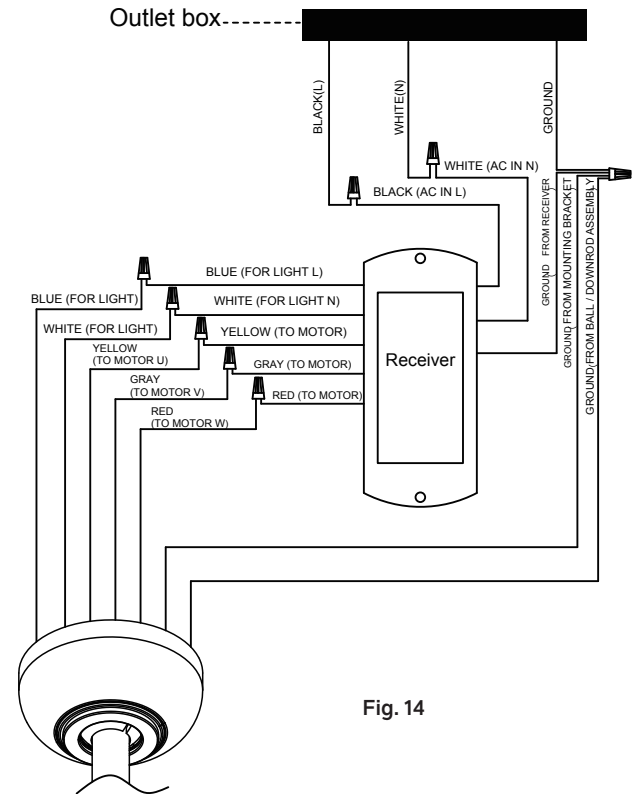

Fig. 14
Step 1. Connect the BLUE (FOR LIGHT) wire from the fan to BLUE wire marked "FOR LIGHT L" from the receiver. **(Fig.14)**
Step 2. Connect the WHITE (FOR LIGHT) wire from the fan to WHITE wire marked "FOR LIGHT N" from the receiver. **(Fig.14)**
Step 3. Connect the YELLOW (TO MOTOR U) wire from the fan to YELLOW wire marked "TO MOTOR" from the receiver. **(Fig.14)**
Step 4. Connect the GRAY (TO MOTOR V) wire from the fan to GRAY wire marked "TO MOTOR" from the receiver. **(Fig.14)**
Step 5. Connect the RED (TO MOTOR W) wire from the fan to RED wire marked "TO MOTOR" from the receiver. **(Fig.14)**
Step 6. Connect the BLACK (L) supply wire from outlet box to wire marked BLACK "AC IN L" from the receiver. **(Fig. 14)**
Step 7. Connect the WHITE (N) neutral wire from outlet box to WHITE wire marked "AC IN N" from the receiver. **(Fig. 14)**
Step 8. Connect GROUND (GREEN) wires from mounting bracket, hanger ball, and receiver to household GROUND (GREEN) or BARE (COPPER). **(Fig.14)**